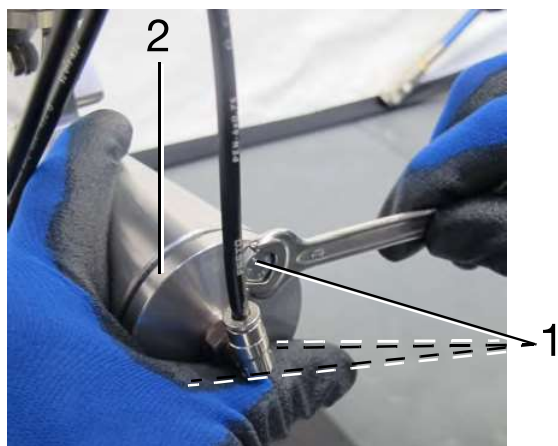

Fig. 1-7 1 Screws
Under the knife cylinder cover (2, Fig. 1-7), a piston and knife are held under pressure by a compression spring. The cover will spring towards you when the screws (1) are loosened.